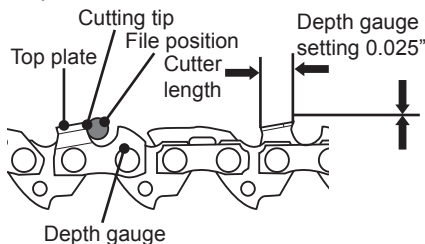

Fig. 52
- > Use a depth gauge measuring instrument to check the height of the depth gauge. Depth gauge measuring jigs are available from most reputable tool merchants (Fig. 52).